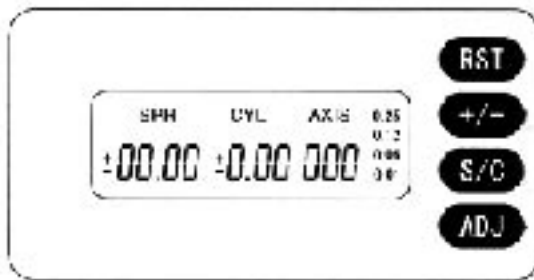

Fig. 5
4.3 Liquid Crystal Display Screen (Fig 5)